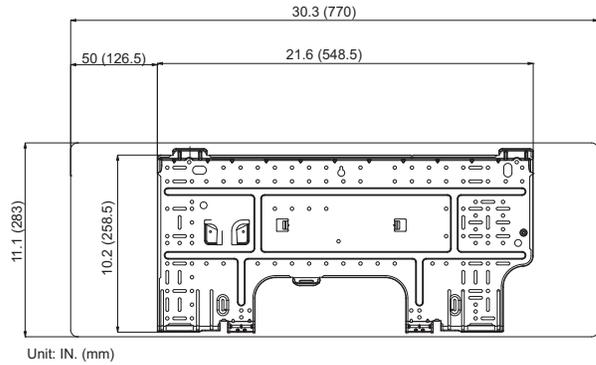
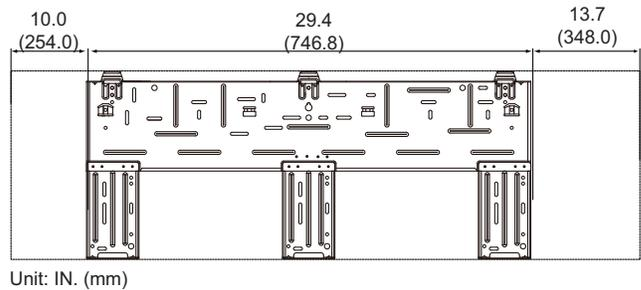

Fig. 7 – 09 and 12K Mounting Plate Spacing
Fig. 10 – 30/36k Mounting Plate Spacing
2. The mounting plate should be located horizontally and level on the wall. All minimum spacings shown in Fig. 7 through Fig. 10 should be maintained.